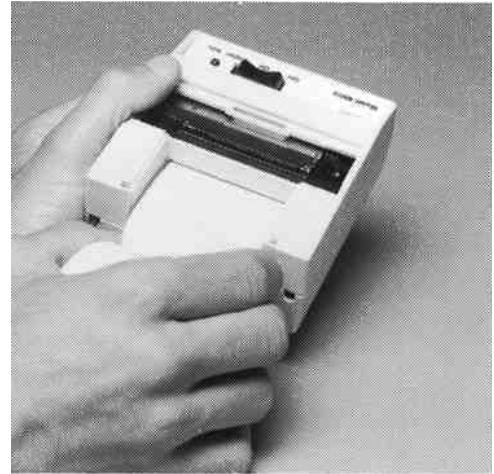

Figure VIII-6. Inserting paper into the printer
Step 3. Be sure the printer is switched off. Slide the paper through the slot connecting the paper compartment and the printer compartment. You can slide it in about $\frac{1}{4}$ -inch before it stops (fig. VIII-6).